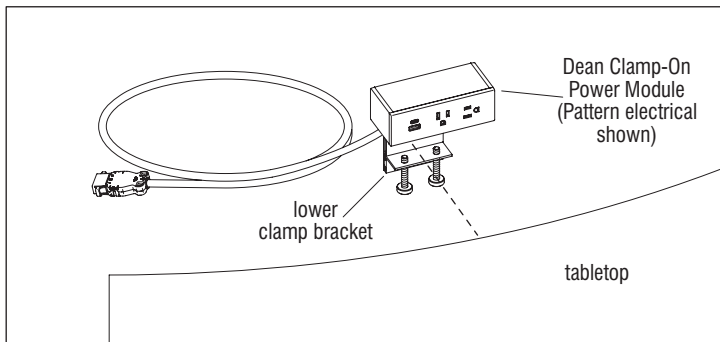

**Figure 1**
1. Position the two Velcro wire managers over the pre-drilled wire manager holes in the underside of the tabletop. Locate and place two steel position tabs, one at each end over the mounting holes in the wire manager, then secure using four #10 x 5/8" screws, through the two position tabs, wire manager mounting holes and into the tabletop. Do not over-tighten (Figure 1 & Detail A).